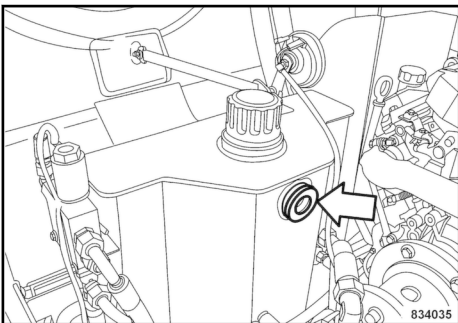

Fig. 157
2. Check the hydraulic oil level in the inspection glass ↪ Fig. 157.